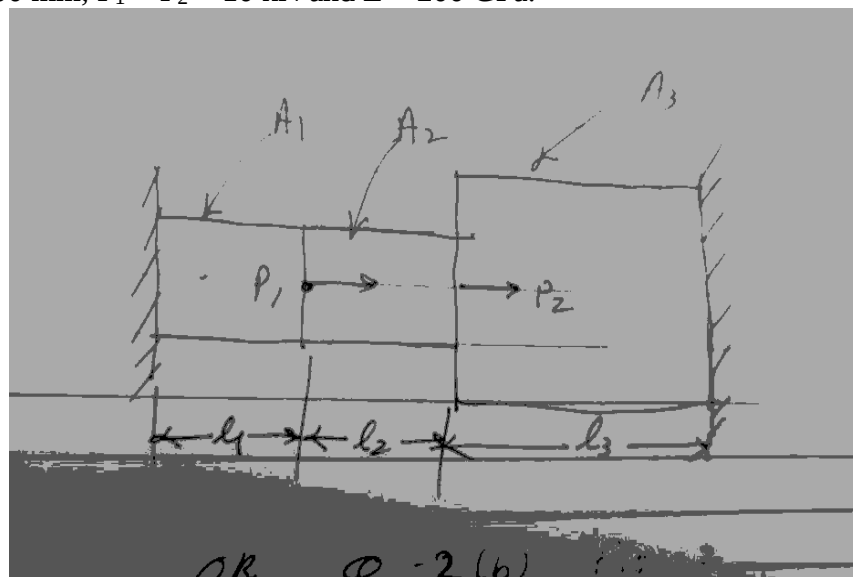

Figure 2
- (b) Determine the displacements of nodes and elemental stresses for the bar as shown in Figure 2. Take: $A_1 = A_2 = 300 \text{ mm}^2$, $A_3 = 400 \text{ mm}^2$, $l_1 = l_2 = 150 \text{ mm}$, $l_3 = 200 \text{ mm}$, $P_1 = P_2 = 10 \text{ kN}$ and $E = 200 \text{ GPa}$. 07